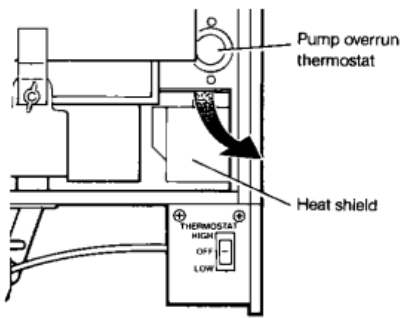

Fig. 23
5.12 To Replace the Pump Overrun Thermostat - See Fig. 23.
centre underneath the chassis, See Fig. 23.
3. Remove the two screws securing the pump overrun thermostat, See Fig. 23.
4. Remove the thermostat from behind the chassis as shown in Fig. 23 and disconnect the three wires.